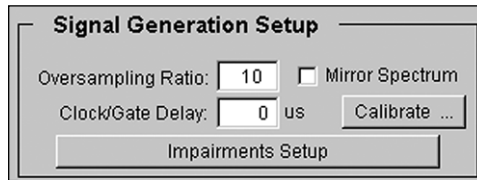

Figure 33. Signal generation setup menu.
4. Use the calibrate utility to determine the signal propagation delay through the ESA. Select the calibrate button in Figure 33. The calculated waveform is automatically downloaded to the ESG and the calibration utility is initiated.